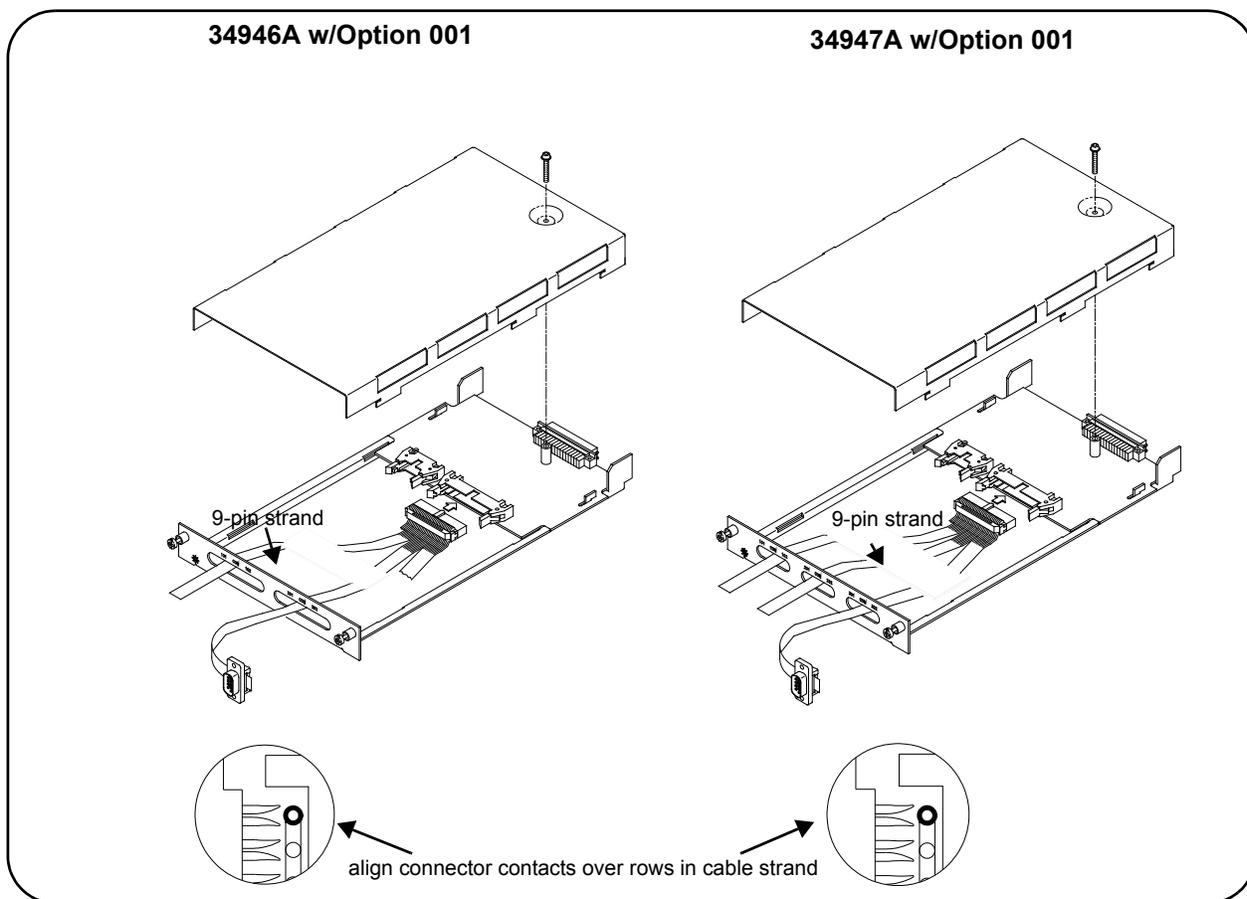

Figure 1 34946A and 34947A Option 001 Installation
- 1 Remove the 34946A or 34947A cover by removing the screw (T-10 torx) on the top of the instrument (Figure 1).
- 2 **34946A** - Route the center and left 9-pin strands through the corresponding slots of the instrument face plate (Figure 1). Cut the cable strands to the desired length, or if necessary, the full length of the strands can be used.
- 3 34947A** - Route the right, center, and left 9-pin strands through the corresponding slots of the face plate as shown (Figure 1).